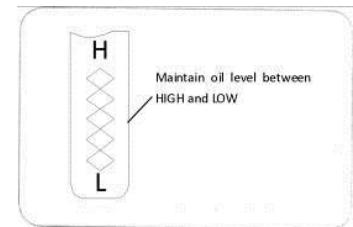

Figure 29
4. Unscrew and remove oil fill cap from oil filler tube. Note oil level. If oil reading on dipstick is below “LOW” mark, slowly add oil to reach “HIGH” level. See Figure 29.